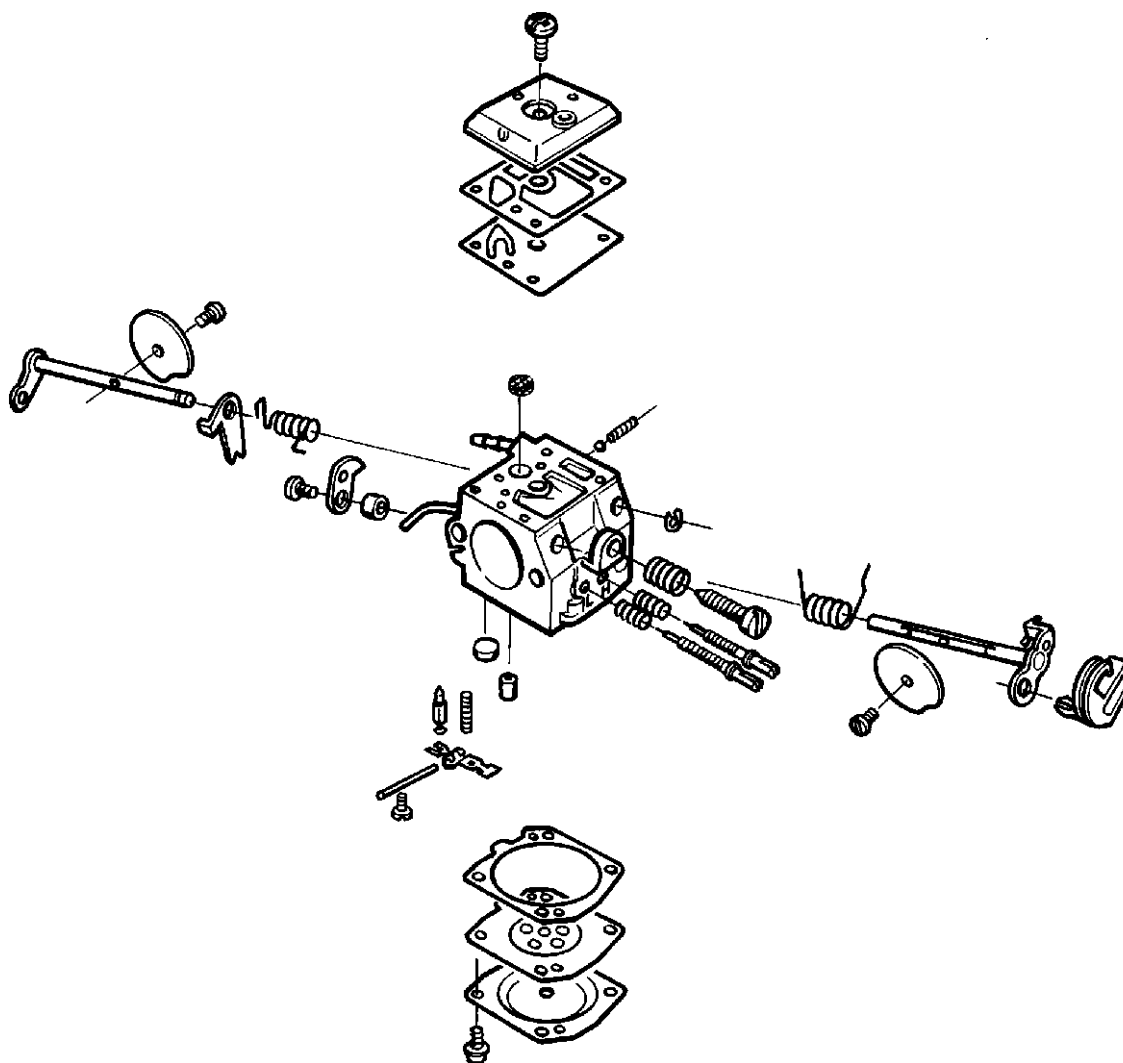

Fig. 12
11. Unscrew and remove the high and low speed jet screws. See fig. 12.
12. If required, unscrew the throttle and choke butterflies, and remove the spindles together with the lever arms and springs. See fig. 12.